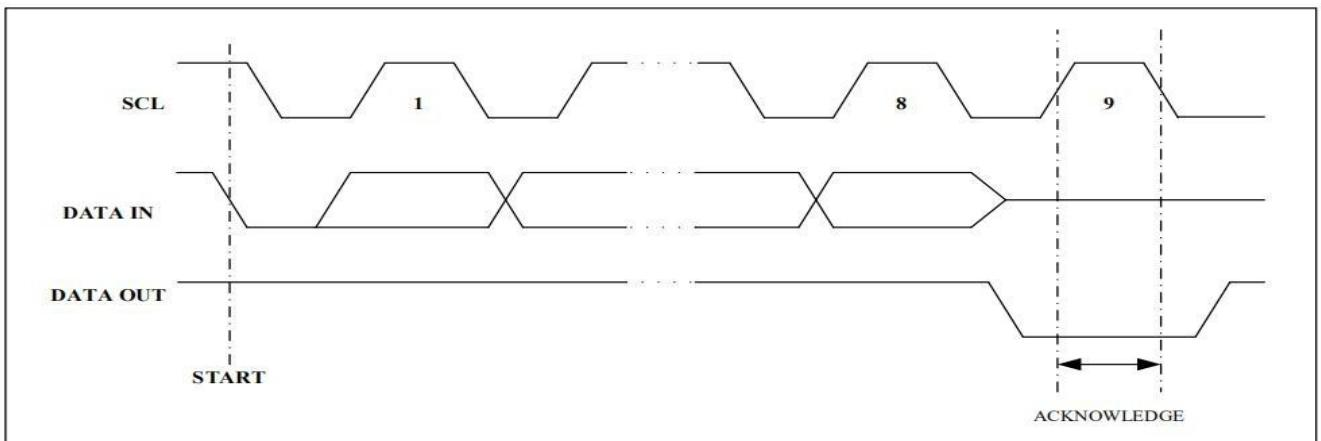

Figure 4. Output Acknowledge
**ACKNOWLEDGE:** All addresses and data words are serially transmitted to and from the EEPROM in 8-bit words. The EEPROM sends a "0" to acknowledge that it has received each word. This happens during the ninth clock cycle.(see **Figure 4**).